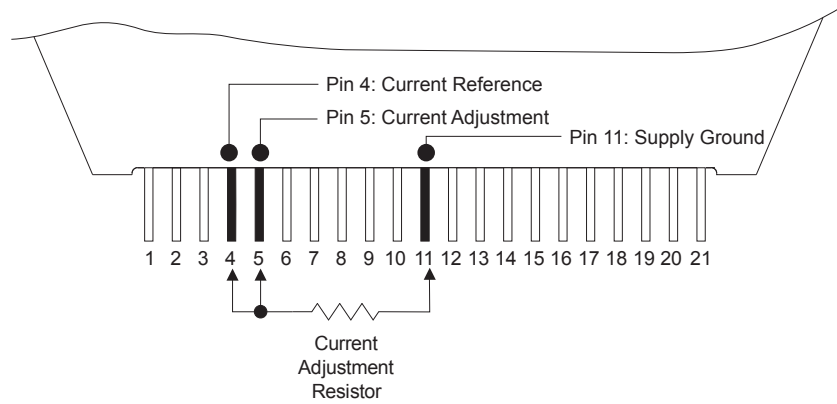

Figure 6.2: Current Adjust Resistor
- By connecting the current reference output (Pin 4) to the current adjust input (Pin 5) and placing a resistor between this connection and ground (Pin 11). This uses the internal 1mA current source provided at the current reference Pin 4 (Figure 6.2).
To utilize this feature, the current reference output must be used to adjust the output current of the IM481H Plus and a resistor must be connected between pins 3 & 4 (See Figure 6.2). The value of the resistor will determine the amount of current reduction.